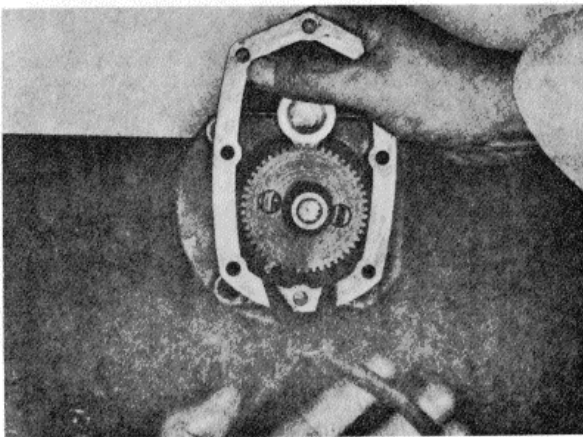

Figure 16G-34. Removing Snap Ring from Groove
7. Remove large snap ring from pump end of drive shaft between drive cover and drive gear with hose clamp pliers or grind a small groove in a pair of needle nose pliers, Figure 16G-34.